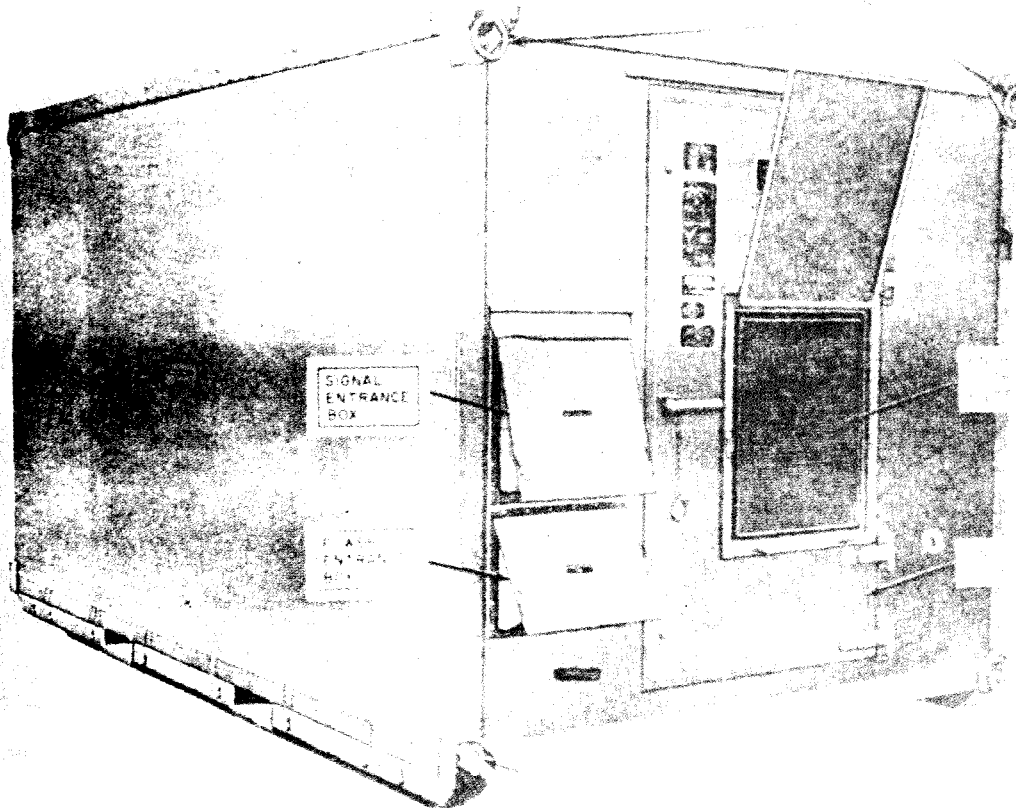
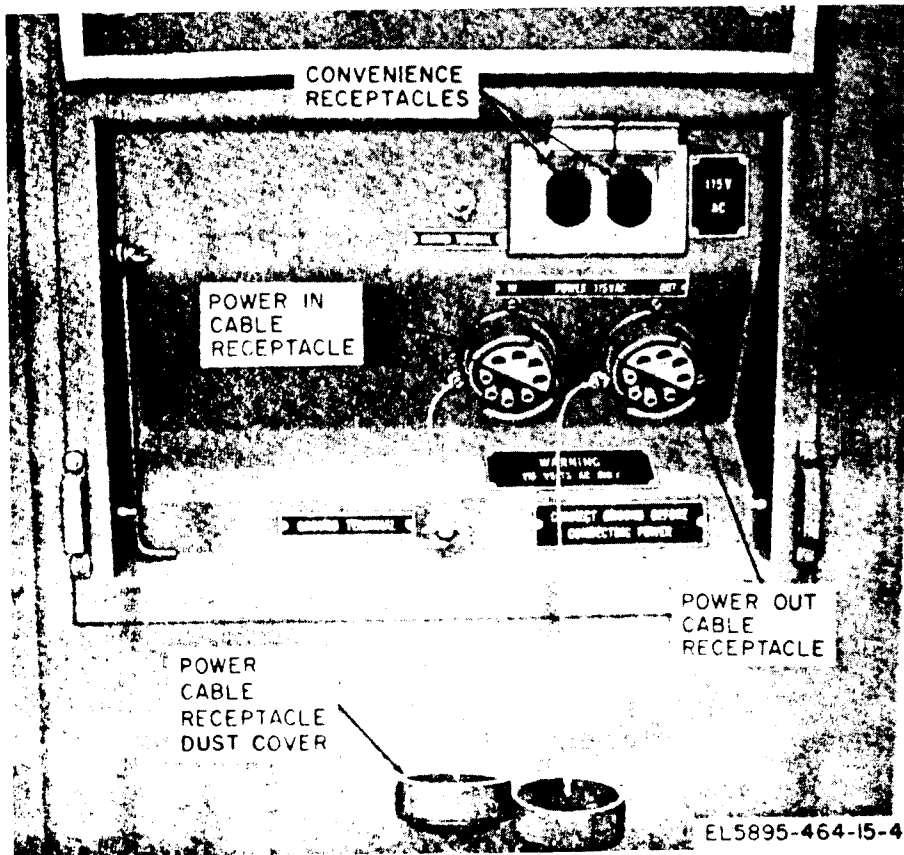

Figure 1-1. Operation Center, Communication AN MSU-31A, rear, roadside view.
Figure 1-4. Power entrance box, exterior front view.
*a. Power and Signal Connections.* Watertight receptacles are provided in the power entrance box (fig. 1-4), on the AN/MSC-31A rear wall (fig. 1-1), for connection to an external power source. Alternating current (ac) power may be provided by a motor-generator set or from a central power source.
a. This manual describes Operations Center, Communications AN/MSC-31A (fig. 1-1 and 1-2). The manual includes instructions for installing, operating, and maintaining the AN/MSC-31A.
a. Operations Center, Communications AN/MSC-31A (fig. 1-1, 1-2, and 1-3) is an air-or land-transportable field communication operations office assemblage. It contains telephone switchboard, local telephone circuits, and provisions for the optional installation of radio equipment (para 4-6). Display board facilities are provided for a Signal Operations Officer to plan, engineer, and control an area-type communication system.
(2) *Entrance boxes.* The power and signal entrance boxes (fig. 1-1) are mounted in the exterior wall of the shelter. Each entrance box is equipped with folding side panels for weather protection and is secured with captive screw fasteners.
(a) The power entrance box (fig. 1-4) contains receptacles for connecting ac power to the shelter components. It also contains a duplex convenience outlet receptacle (115 volts ac) equipped with a spring-loaded watertight cover. Entrance to the rear of the power entrance box is provided on the interior rear wall when the power entrance panel is removed.
*a.* Loosen and lift the cover of the power entrance box (fig. 1-1).
*b. Connection to Motor-Generator Set.* If a motor-generator set is used to provide power to the AN/MSC-31A, connect power to the shelter as described in (1) and (2) below; otherwise, connect power as described in *c* below.
(1) Remove the cover from the IX POWER 115V AC receptacle in the power entrance box (fig. 1-4) and from the connector on one end of the power cable assembly. Connect the power cable assembly to the IN POWER 115V AC receptacle.
(2) If the motor generator set includes an output connector that is compatible with the connector on the power cable assembly, connect the power cable assembly to the generator set; otherwise, refer to the motor-generator set manual and connect the leads (white lead neutral) of the power cable stub to the appropriate output terminals of the motor-generator set. Connect the power cable stub to the power cable assembly.